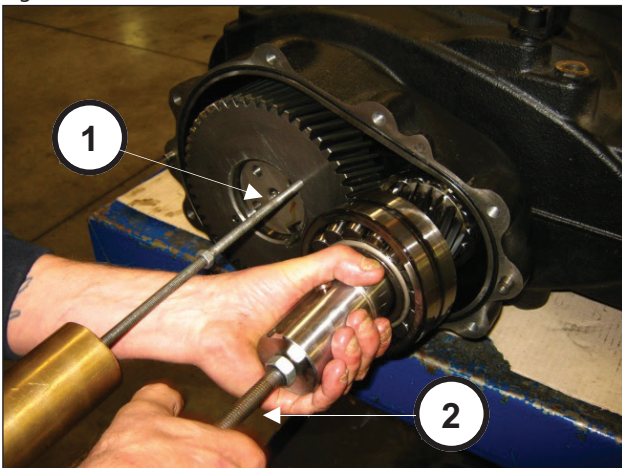

Fig. 11
In order to remove the pinion + ring gear assembly it is necessary to apply extractor hammers to the 2 M8 holes of the ring gear (pos. ①, Fig. 11) and to the pinion M14 hole (pos. ②, Fig. 11).